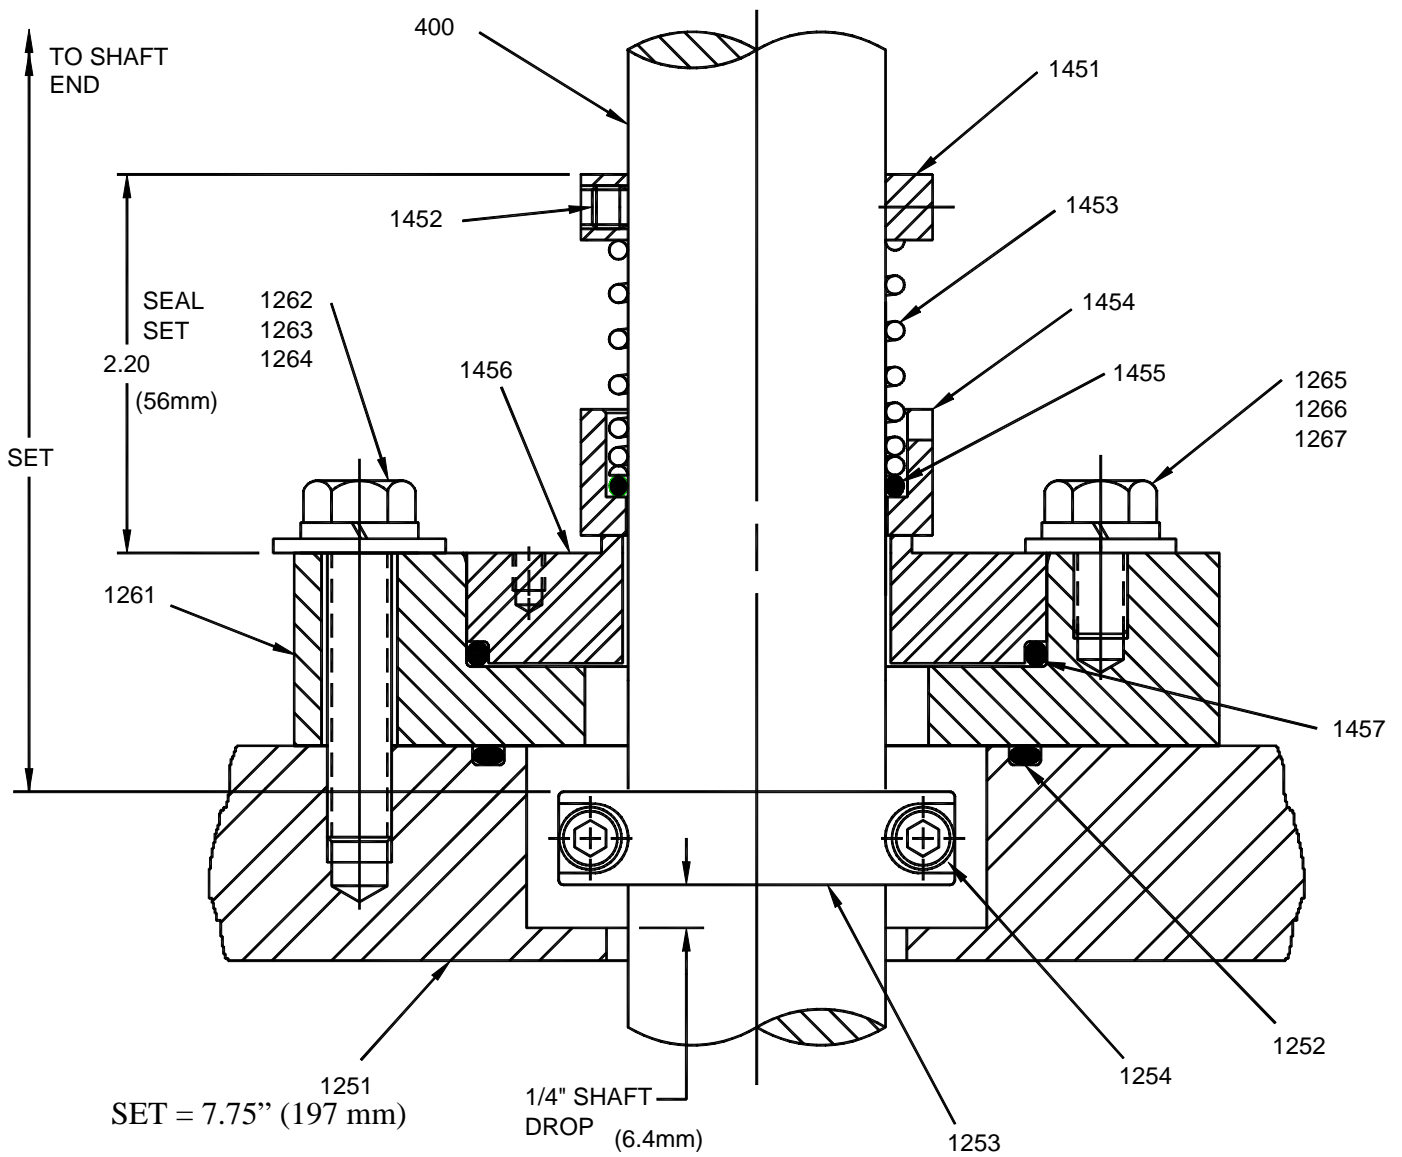

Figure 4: Model 40DTNS Seal, Flowserve MCRO
10. Set collar **[1451]** at 2.20" (55.9mm) above the adapter plate face per *Figure 4, page 10*. Evenly tighten all cup point setscrews **[1452]**.